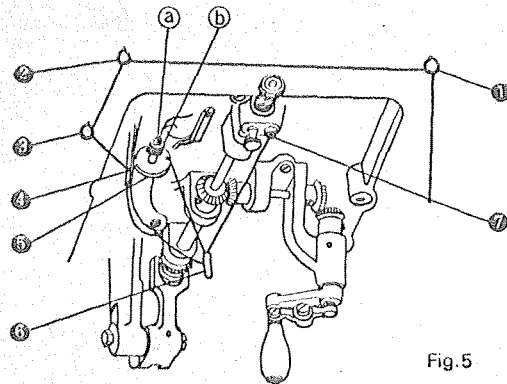

Fig. 5
- ⑧: Tension Complete
- ⑨: Tension Bracket
- ①: Tension Controller Spring
- ⑪: Presser Foot Lifter
- ⑫: Stitch Rotating Hand Lever Handle
- ⑬: Needle Plate Thumb Screw
- ⑭: End of Looper Shaft
- ⑮: Nipple
- ⑯: Nipple Holder
- ⑰: Nipple Carrier Thumb Screw
7. TO THREAD THE MACHINE (Figs. 5, 6 & 7)
1) For the thread (Figs. 5 & 6)
Three thread eyelets are furnished with the machine. These eyelets should be fastened to the underside of the table as shown at ①, ② and ③, Fig. 5. Eyelet ① should be located directly above the cone of thread.
11. TENSIONS (Fig. 5)
The tension on the thread is regulated by the thumb nut ④, Fig. 5 at the left of the tension discs. To increase the tension turn this nut over toward you. To decrease the tension turn this nut over from you. This tension should be only tight enough to prevent the skipping of stitch.